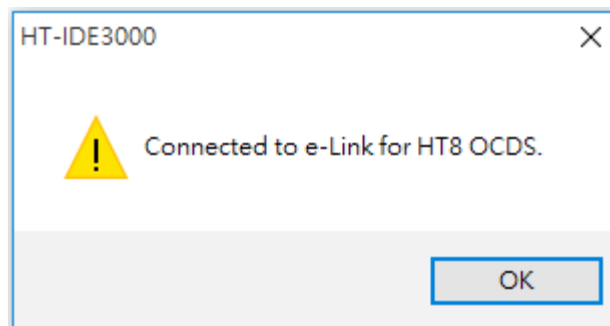

Figure 6 Successful Connection
- After the HT-IDE3000 has started, the prompt dialog will pop up if the ESK-303 has connected successfully, as shown in Figure 6.